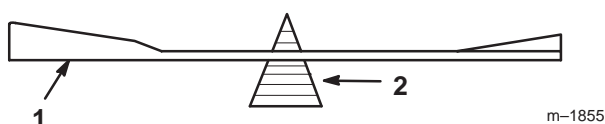

Figure 57
2. Check the balance of the blade by putting it on a blade balancer (Fig. 57). If the blade stays in a horizontal position, the blade is balanced and can be used. If the blade is not balanced, file some metal off the end of the sail area only (Fig. 55). Repeat this procedure until the blade is balanced.